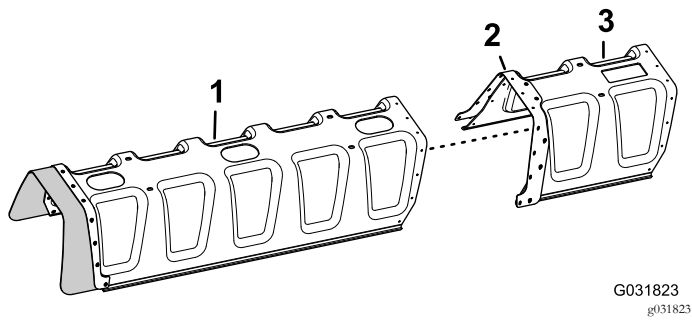

Figure 147
- Align the holes in the reinforcement plate (double row) on the cover extension with the holes in the end of the 11-nozzle boom cover (Figure 147).